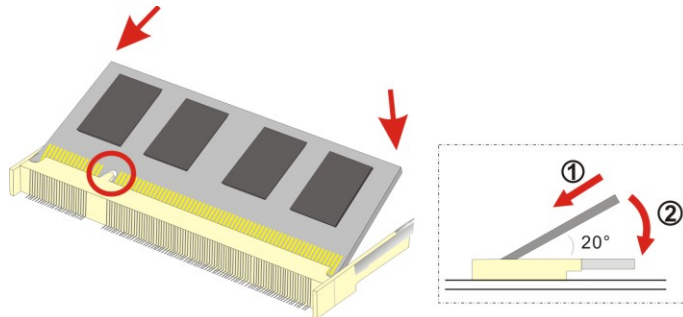

Figure 4-4: SO-DIMM Installation
To install an SO-DIMM, please follow the steps below and refer to **Figure 4-4**.
- Step 3:** Insert the **SO-DIMM**. Push the memory in at a 20° angle. (See **Figure 4-4**)
- Step 4:** **Seat the SO-DIMM**. Gently push downwards and the arms clip into place. (See **Figure 4-4**)